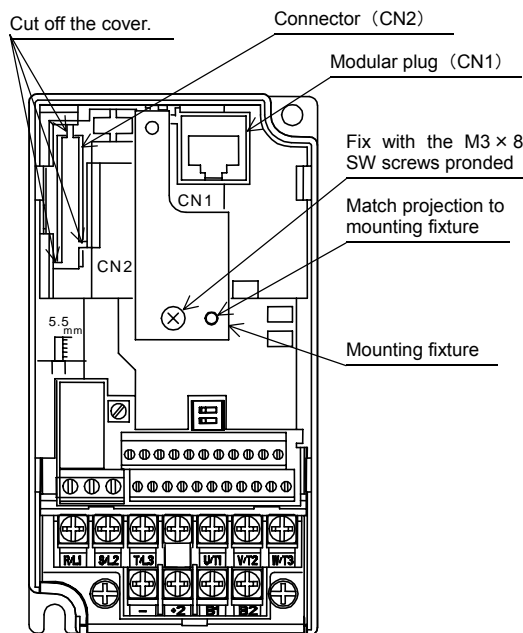

Fig. 1 Front of Inverter
- 2) See Fig.1 for the three places where you should cut off the cover of the inverter CN2 connector. Use nippers to cut it off. Be careful so that the nippers do not fall into the inverter unit. Should they fall in, be sure to remove them.
- 3) Fix the mounting fixture as shown in Fig.1.